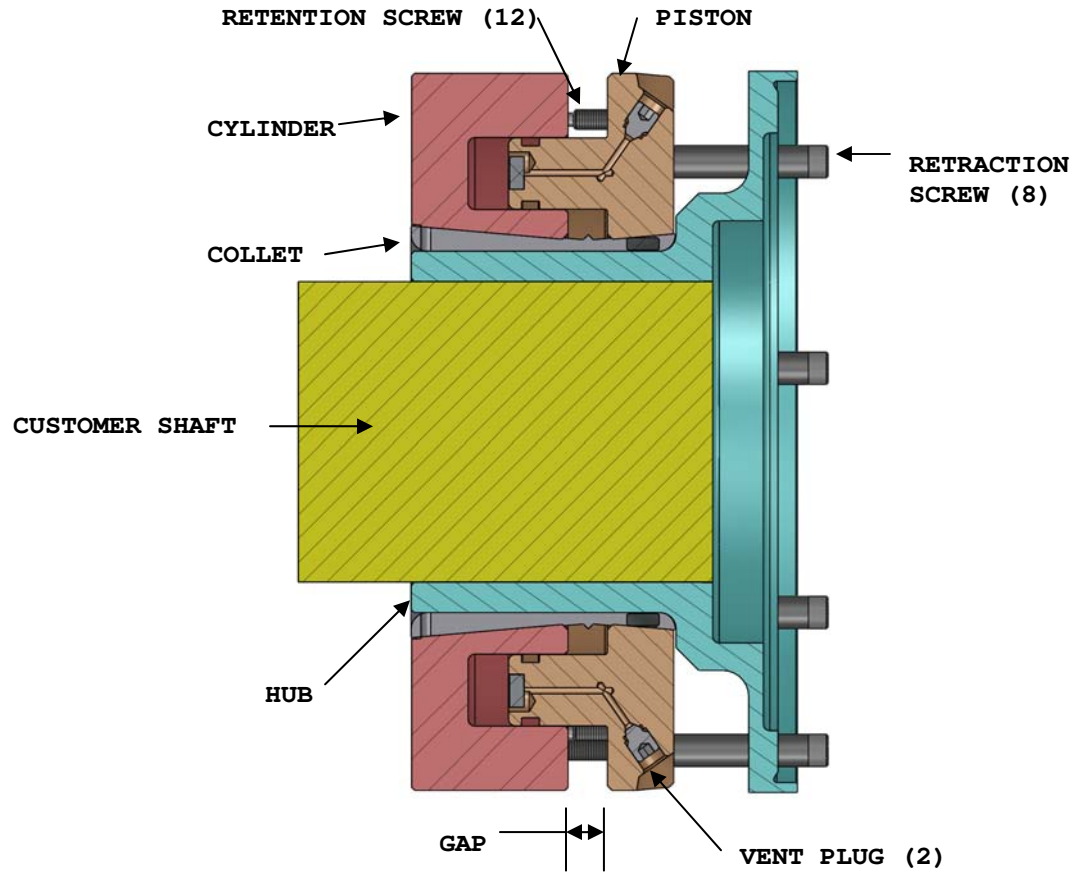

FIGURE 1a - HTC/ Hub Assembly Cross Section
The Hydraulic Torque Coupler (HTC) connects the hub to the shaft. It accomplishes this by squeezing the hub OD with very high pressure. This pressure forces the hub to squeeze down onto the shaft producing a tight fit. Squeeze is produced when hydraulic pressure is applied. This separates the piston and cylinder of the HTC. As these rings separate, they ride up the slopes of the collet generating interference. Figure 1a shows the hub mounted on the shaft using an HTC. Prior to assembly, the hub and shaft have been machined to produce a keyless, cylindrical slip fit.
2.3.1 Remove the vent plugs (see Figure 1a). Tighten the retraction screws to 2-5 ft-lbs. Be sure the gap is closed (see Figure 2a).
2.4.11 The proper setting of the HTC is accomplished by the separation or gap between the two halves of the clamp (see Figure 1a). Special Gap Tool (Riverhawk PN 7500596) has been provided to facilitate this setting. Be sure you maintain the First Grip Position from the previous step until the tool is in place. Thread the gap tool into one of the retraction screw holes until the outer sleeve aligns with the first scribe line on the rod (see Figure 5a). The tool is spring loaded so you will need to push and turn in order to start the thread.
2.4.18 Place vent plugs 2002429 into both hydraulic ports after all oil is drained (see Figure 1a).